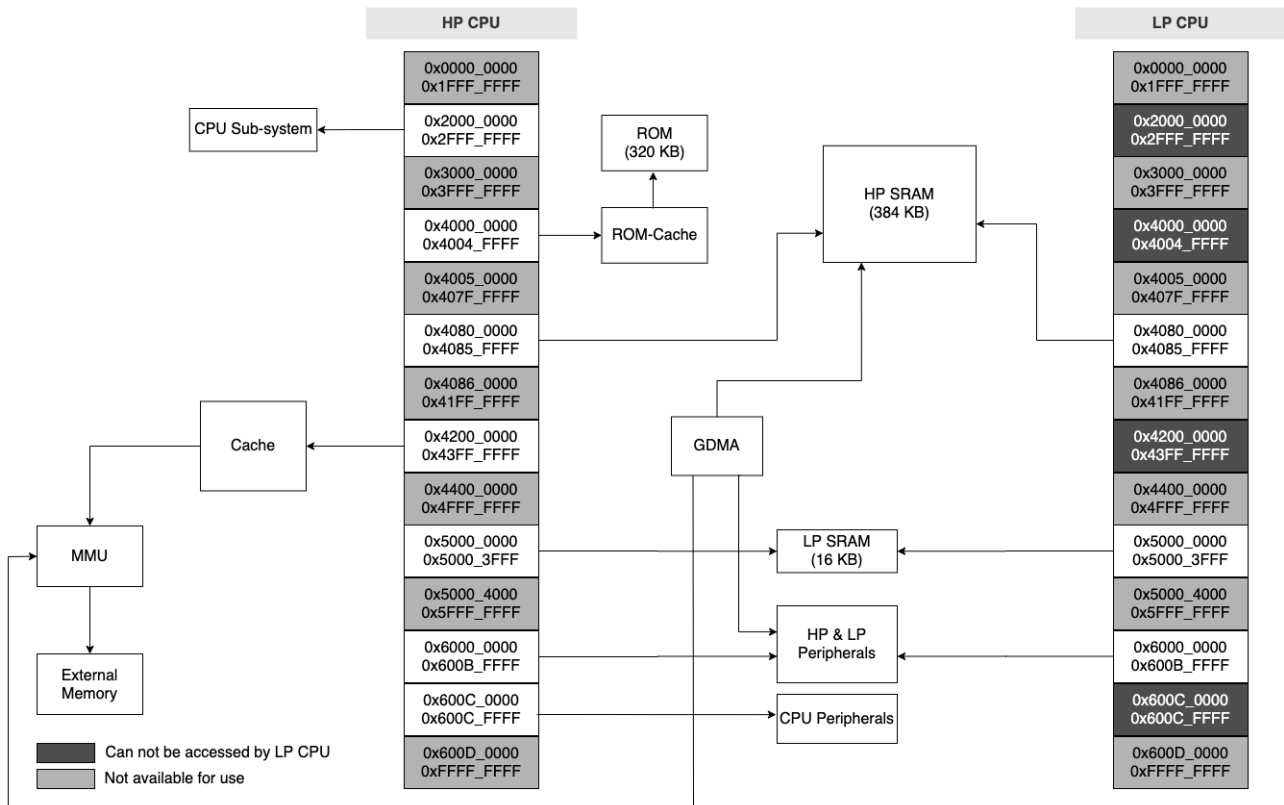

Figure 6.3-1. System Structure and Address Mapping
Figure 6.3-1 illustrates the system structure and address mapping. All the non-reserved addresses are accessible via both the instruction bus and the data bus, meaning that the instruction bus and the data bus share the same address space.
- Some of the address space can only be accessed by the HP CPU, not by the LP CPU, as indicated in Figure 6.3-1. This part of the address space will not be specifically distinguished in the following sections.